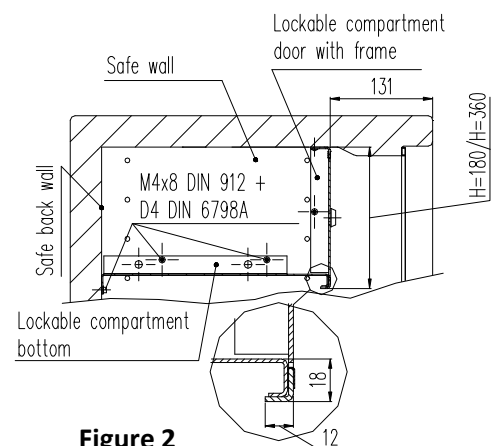

Figure 2
- 1.4 Place the bottom inside the safe as shown in Figure 2.